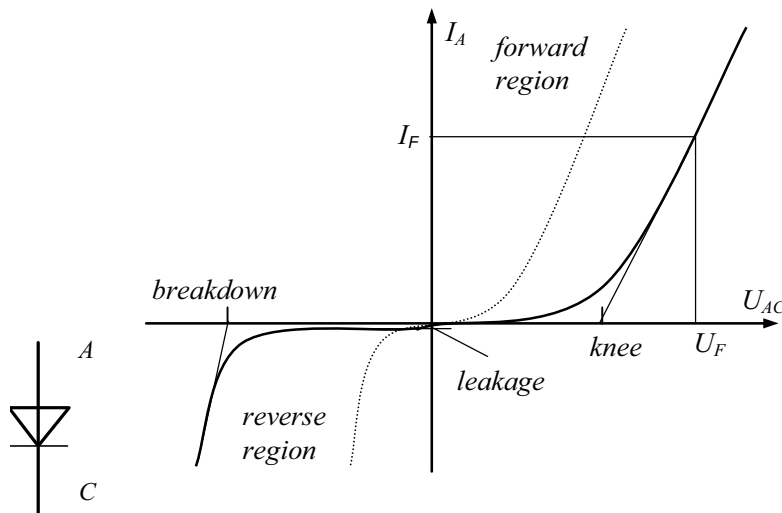

Fig. 1.6
**Term and symbol.** The word “diode” originates from Greek “di”, that is “double”. One of its main applications is in rectifiers, circuits that convert the alternating voltage or alternating current into direct voltage or direct current. It is also applied in detectors, which find the signals in the noisy operation conditions. The third application is in switching circuits because an ideal rectifier acts like a perfect conductor when forward biased and acts like a perfect insulator when reverse biased. A schematic symbol for a diode is given in Fig. 1.6.